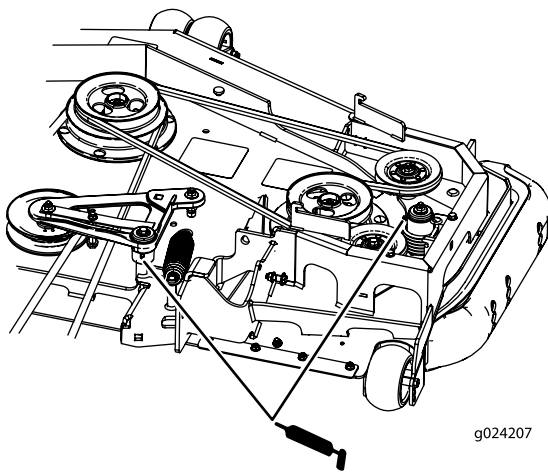

Figure 39
5. Grease the deck-belt idler arms (Figure 39).